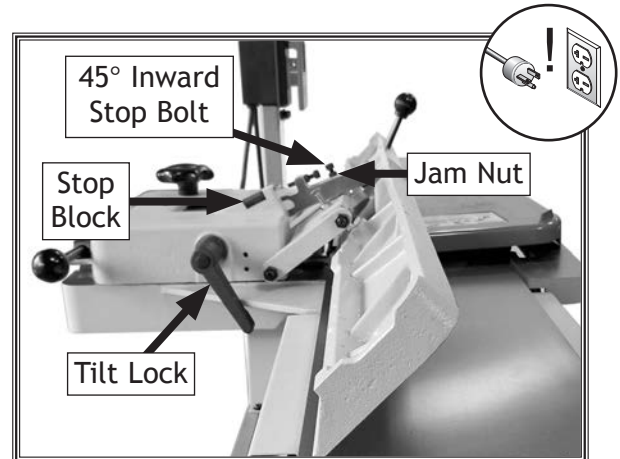

Figure 53. Fence set to 45° inward.
2. Loosen fence tilt lock, rotate stop block up, then tilt fence approximately 45° inward onto stop bolt (see **Figure 53**).
4. Loosen jam nut on 45° stop bolt and adjust stop bolt until fence is exactly 45° inward while resting on stop bolt (see **Figure 53**). Verify angle, then retighten jam nut.